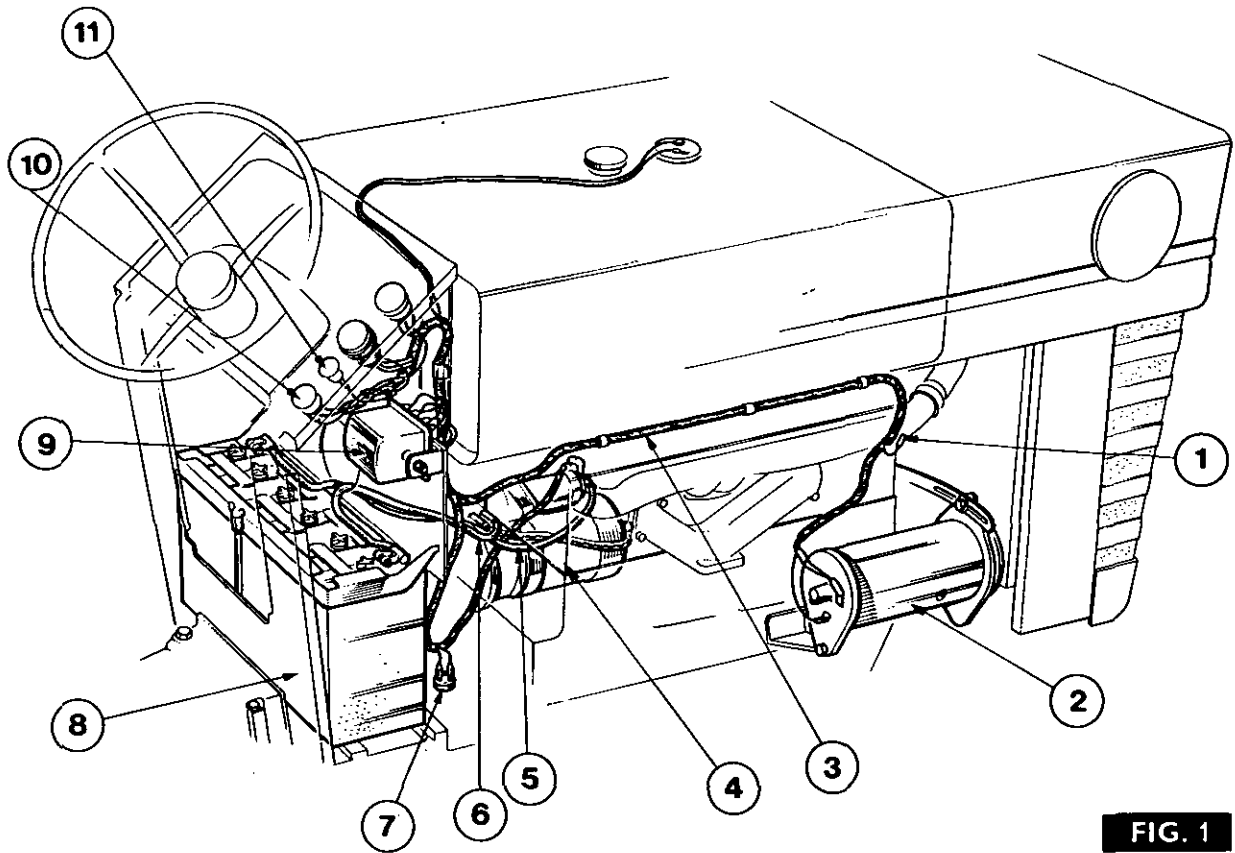

FIG. 1
The electrical system of this tractor is a 12 volt Negative earth system, with compensated voltage control regulator. Fig. 1 shows the layout of all the electrical components and associated wiring.
**ELECTRICAL SYSTEM****Key to Fig. 1**